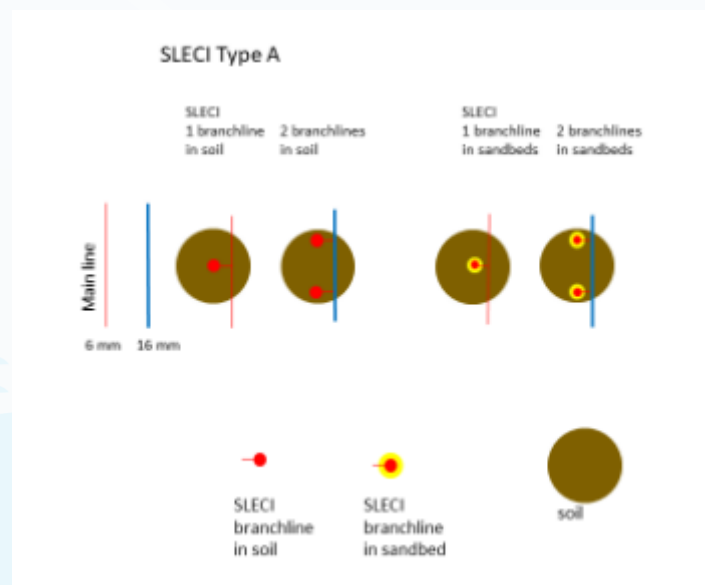

Figure 3-1d: SLECI system Type A variants for new planted crops
- Fig. 3-1d: Installation for new plantings